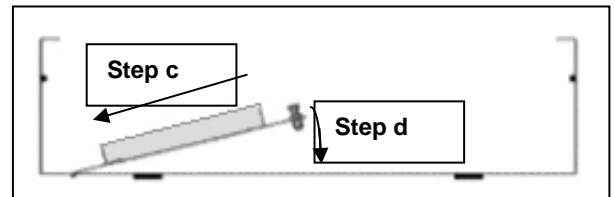

Figure 2
b. Align two stationary tabs on the module with slots on the back of the enclosure (see *Figure 2*).
c. Insert tabs by angling module away from the back of the enclosure and sliding forward (see *Figure 2*).
d. Rotate the module and insert the built in locking tab on the module into the corresponding hole on the back of the enclosure, pushing in until it snaps into place (see *Figure 2*).